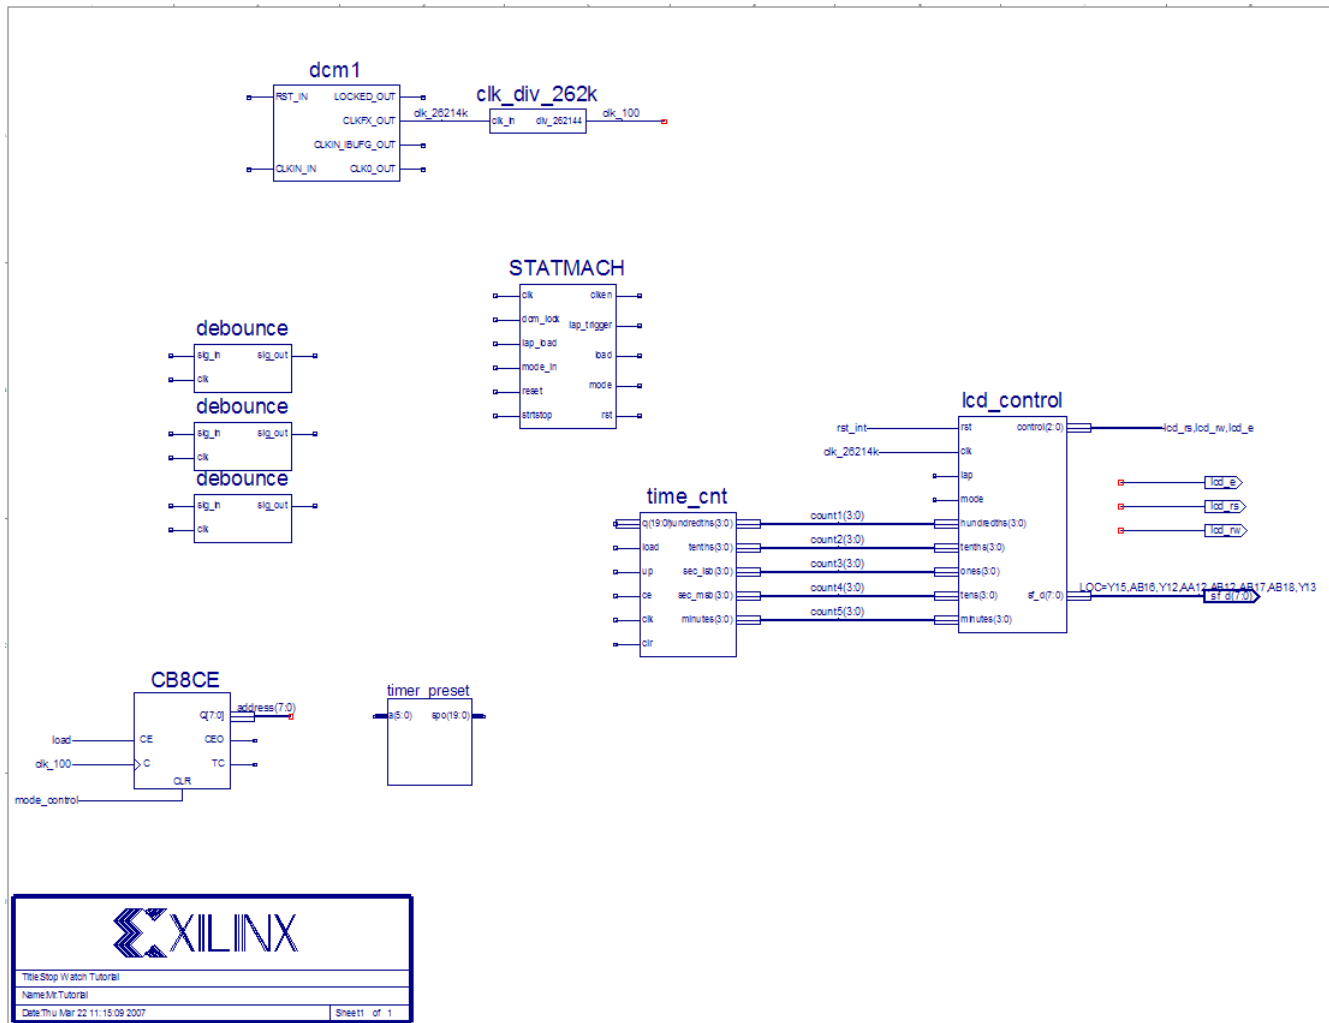

Figure 3-26: Placing Design Macros
5. Select the appropriate symbol, and add it to the stopwatch schematic in the approximate location, as shown in Figure 3-26.